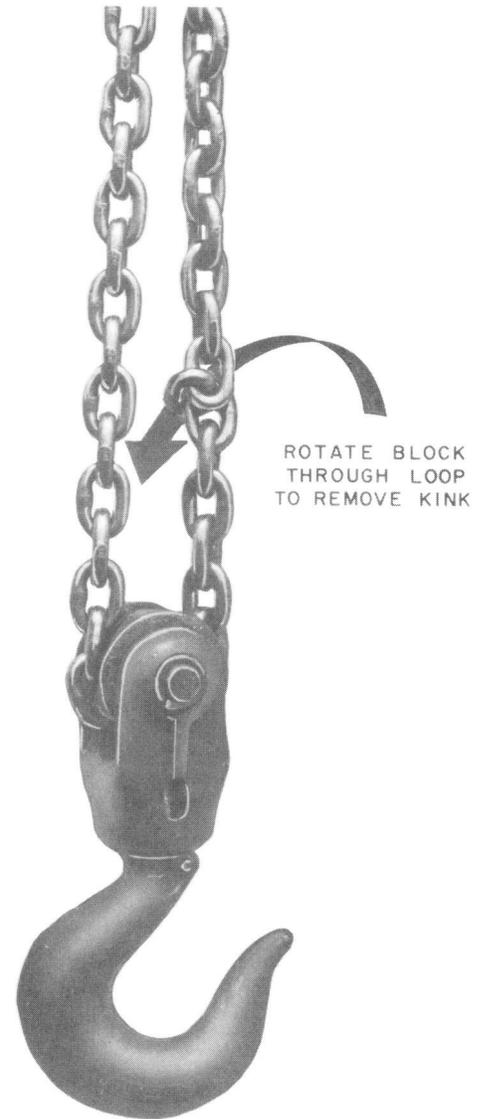

Fig. 2—Removing Kink from 3-Ton Hoist Chain
- 3.13** When using a hoist, be sure there are no kinks in the chain. In a 3-ton hoist, this will occur if the block and load hook is rotated through the loop of chain between the housing and the block. To remove the kinks, rotate the block and load hook through the loop of chain in the opposite direction (see Fig. 2).